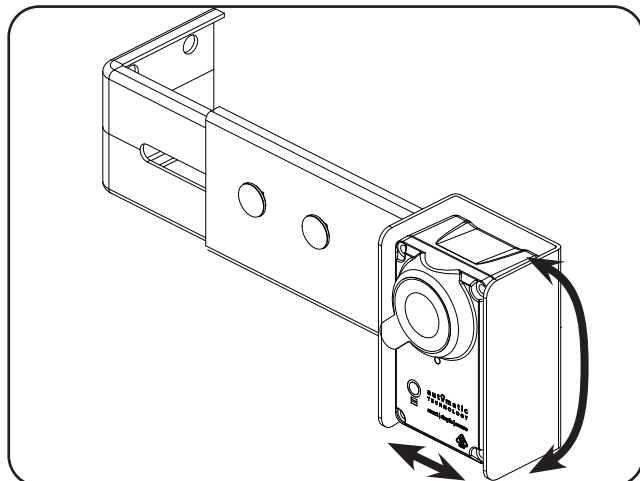

Fig.6.3.3
- Align the safety beams by moving them per Fig 6.3.3 and using the main light as a guide: